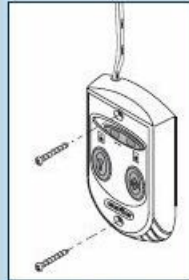

FIG. 3-4 Mounting Wall Control.
- Fasten Wall Control to wall with 2 screws (provided) (Fig. 3-4).